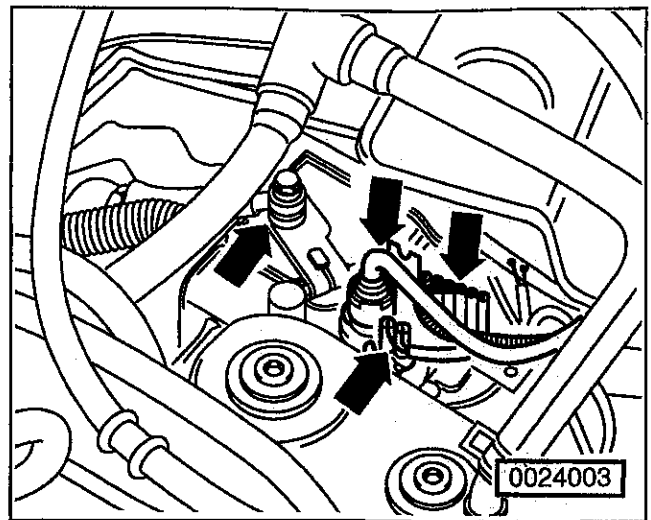

Fig. 4. Top view of automatic transmission showing harness connectors and selector lever cable (arrows).
14. Working under the car, disconnect the drive axle inner constant velocity (CV) joints from the transmission drive flanges, as described in **40 Front Suspension and Drive Axles**. Suspend the axles from the body with stiff wire to avoid damaging the CV joints.
18. On cars with automatic transmission, remove the harness connectors from the transmission housing. Disconnect the selector lever cable from the transmission lever. Free the cable from its bracket. See Fig. 4.